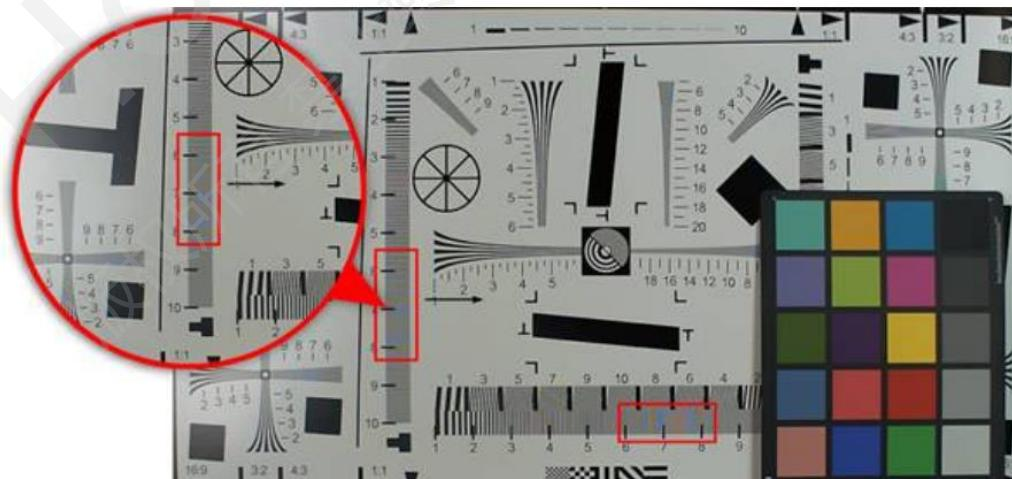

Figure 3.15-8 Example of an ISO12233 with initial false color settings. Note the visible Moiré pattern.
9. To start tuning false color, which should initially look something similar to Figure 3.15-8, set the values in Table 3.15-9 below: